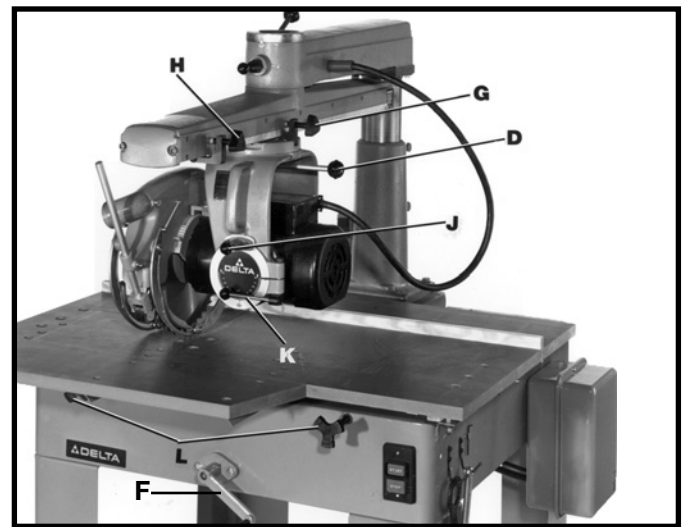

Fig. 3
D - YOKE CLAMP HANDLE Fig. 3. The yoke clamp handle must be loose when rotating the yoke to the rip or cross-cut position.
F - ELEVATING CRANK HANDLE Fig. 3. Controls the depth of cut in all operations. Turning the crank handle raises or lowers the over-arm.
G - CUTTINGHEAD CLAMP KNOB Fig. 3. Locks cuttinghead at any position on the track-arm. When ripping the cutting clamp knob must be tight.
H - CROSS-CUT STOP Fig. 3. Prevents unnecessary travel of the cuttinghead on the track-arm. It is especially useful when performing repetitive operations. Clamp the stop to the side of the track-arm at a position which will stop the cuttinghead travel as soon as the blade cuts through the workpiece.
J - BEVEL INDEX KNOB Fig. 3. Locates 0° and 45° and 90° positions of the motor when bevel cutting. When tilting the motor for bevel cutting, the bevel clamp handle (K) must first be loose.
K - BEVEL CLAMP HANDLE Fig. 3. Controls tilt of motor for bevel cutting operations. Locks motor at any desired angle on the bevel scale.
L - TABLE CLAMP KNOBS. Fig 3. Allows the operator to quickly set the desired fence position.